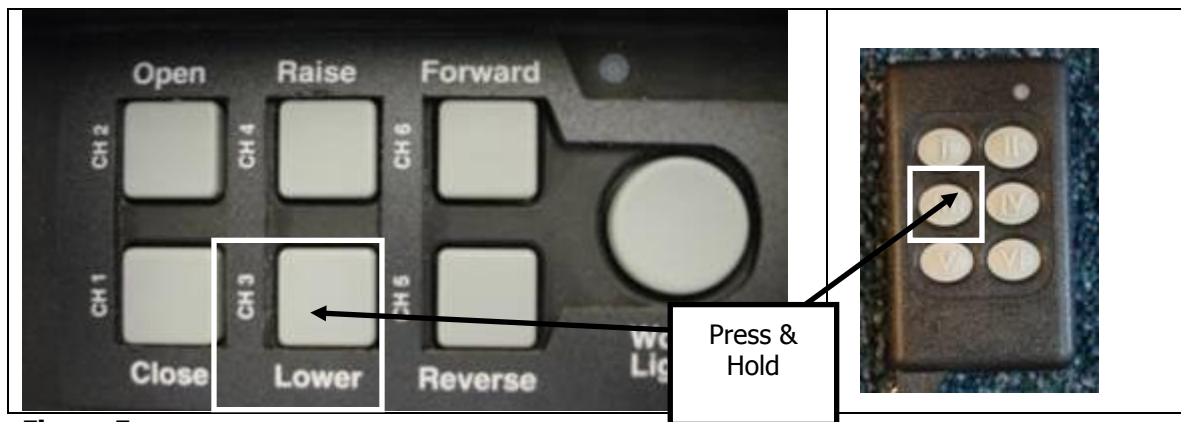

Figure 5
- 5) Lower tower so that tarp wraps neatly around front of container. To lower the tower press & hold button 3 on the control box or the key fob (see Fig. 5). On short cans you may have to pull tarp down to the top of the container and secure it with a cambuckle strap.
- 7) Lower tower so that tarp wraps neatly around front of container. To lower the tower press & hold button 3 on the control box or the key fob (see Fig. 5).